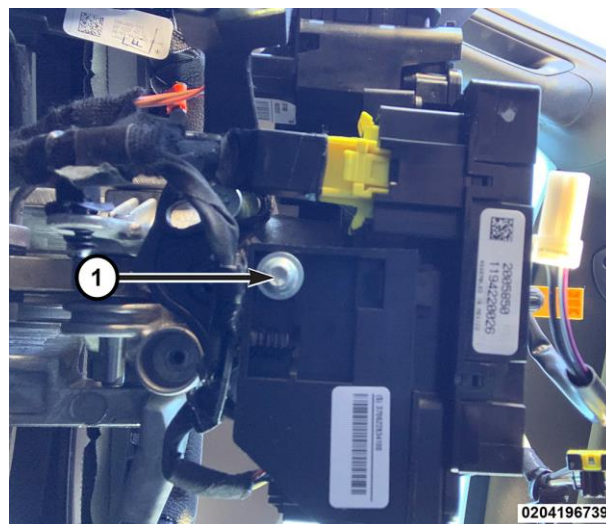

Figure 14 – SCCM Screw
25. Remove the screw (1) (Figure 14).